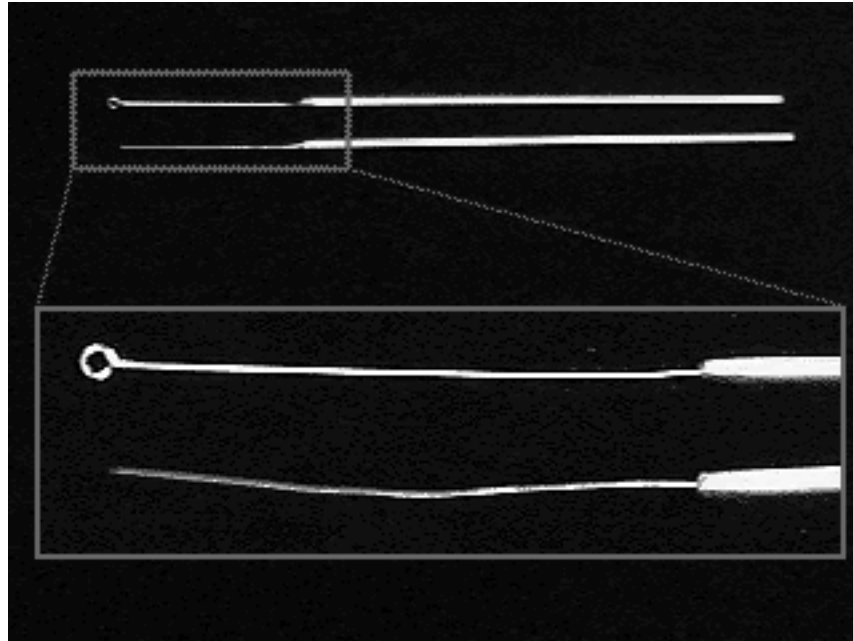

Figure 5.3: Wire inoculating loop and needle used in this experiment.
3. Sterilize the inoculating loop (Figure 5.3), by holding its tip in the flame until it turns red.